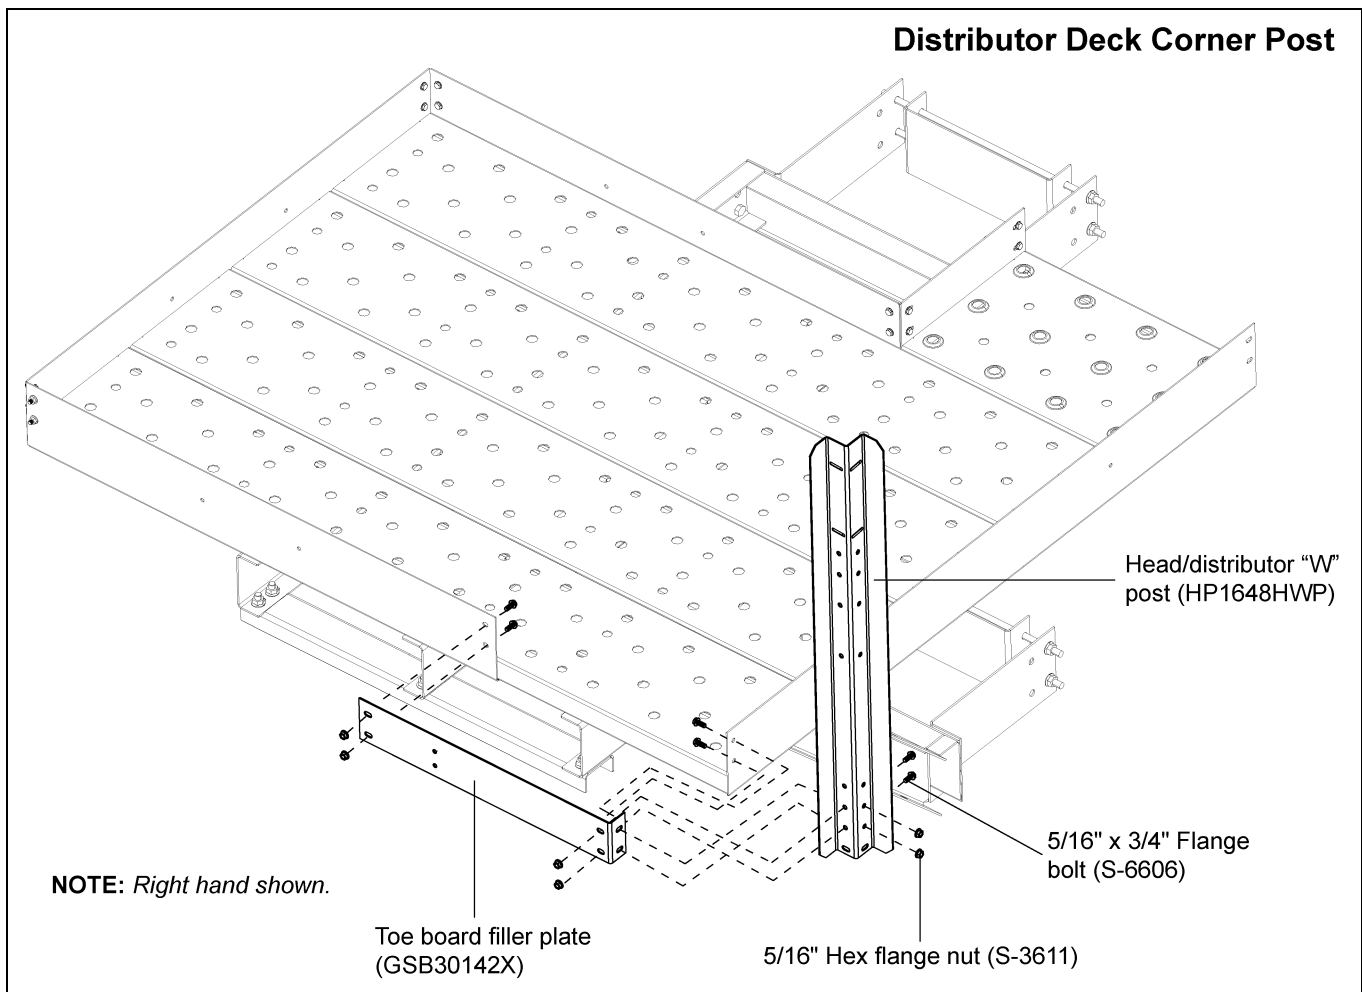

Figure 12G Distributor Platform Corner Post
4. Align flange of end toe board along the bottom of decking. Connect end toe board to decking using 1/2" x 1" bolts and nuts. (See Figure 12G on Page 94.)
5. Install the corner "W" post at the same time as the toe board filler plate. Attach toe board filler plate to the decking toe boards located across from the entrance. Attach the flat end first using two (2) 5/16" x 3/4" flange bolts and nuts. Then line up the holes of the toe board filler plate with the decking toe board, while also aligning the holes of the "W" post on the corner. Fasten all three (3) together with four (4) 5/16" x 3/4" flange bolts and nuts. (See Figure 12G on Page 94.)